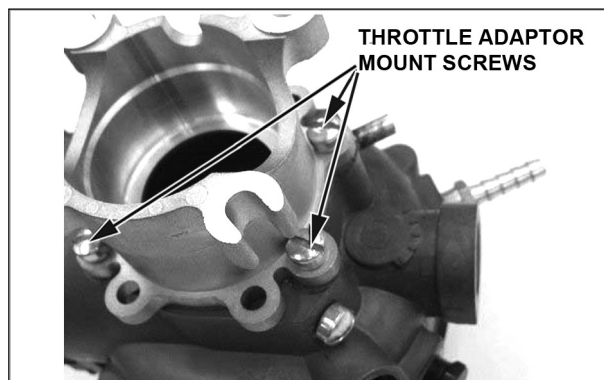

Figure 32. Throttle Adapter Mount Screws
2. Install the four mounting screws that attach the throttle adapter (5) to the mixer. (See **Figure 32**). Torque bolts to 30-40 lbf-in (3.39-4.52 N-m).